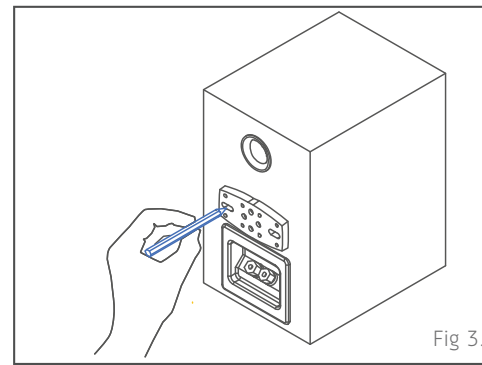

Fig 3.
- Check for pilot holes on your speaker enclosure at the desired location to accommodate the mounting plate. If new pilot holes are needed, use the mounting plate as a template to carefully mark out and drill two new pilot holes, using 2.5mm drill bit supplied. (Fig 3.)